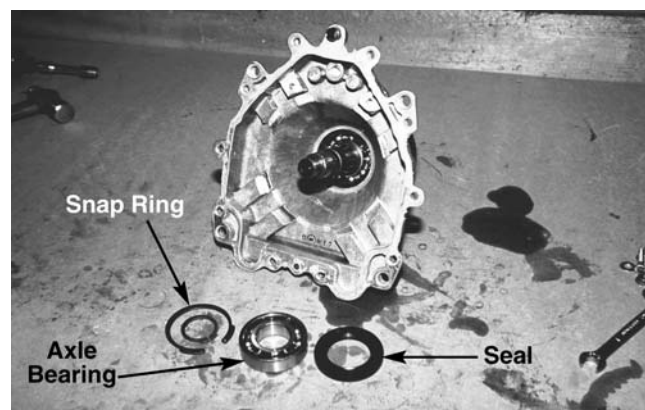

Figure 10-54.
14. Remove the axle from the housing, first remove the snap ring from the axle. See Figure 10-54.